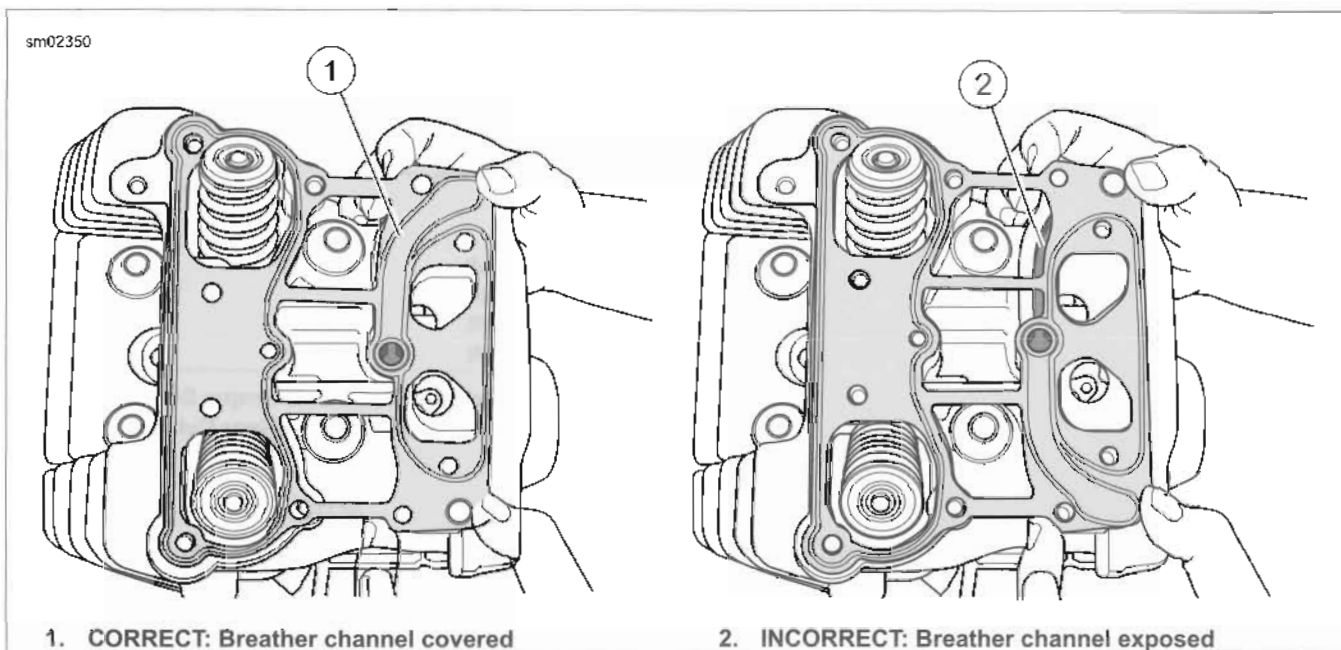

Figure 3-80. Install Rocker Housing Gasket (Rear Cylinder Shown)
7. See Figure 3-80. Install a **new** rocker housing gasket on the cylinder head. Verify that the rocker housing gasket covers the breather channel.